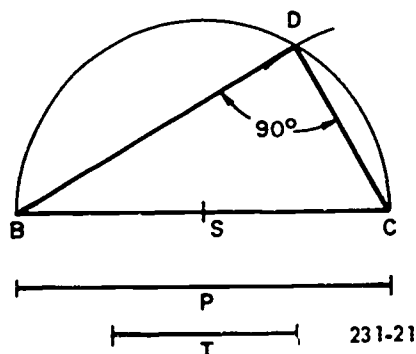

Figure 4-21. Constructing a right triangle with hypotenuse and one side.
**Construction of a Right Triangle with Hypotenuse and One Side Given.** Figure 4-21 illustrates the following procedure for constructing a right triangle with hypotenuse (P) and a side (T) given.
- (1) Draw a line (any position) and mark off BC equal to the length of line P.